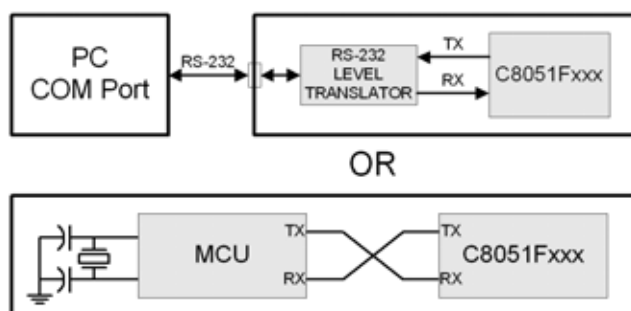

Figure 23.5. Typical UART Interconnect Diagram
In typical UART communications, The transmit (TX) output of one device is connected to the receive (RX) input of the other device, either directly or through a bus transceiver, as shown in Figure 23.5.